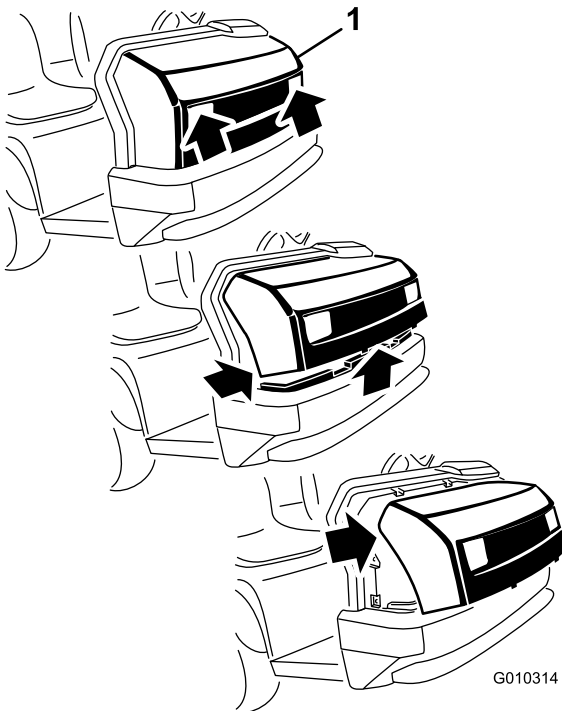

Figure 1
5. While grasping the hood in the headlight openings, lift up on the hood to release the lower mounting tabs from the slots in the bumper (Figure 1).
6. Pivot the bottom of the hood upward until the top mounting tabs can be pulled from the frame slots (Figure 1).
7. Pivot the top of hood forward and unplug the wire connectors from the head lights (Figure 1).